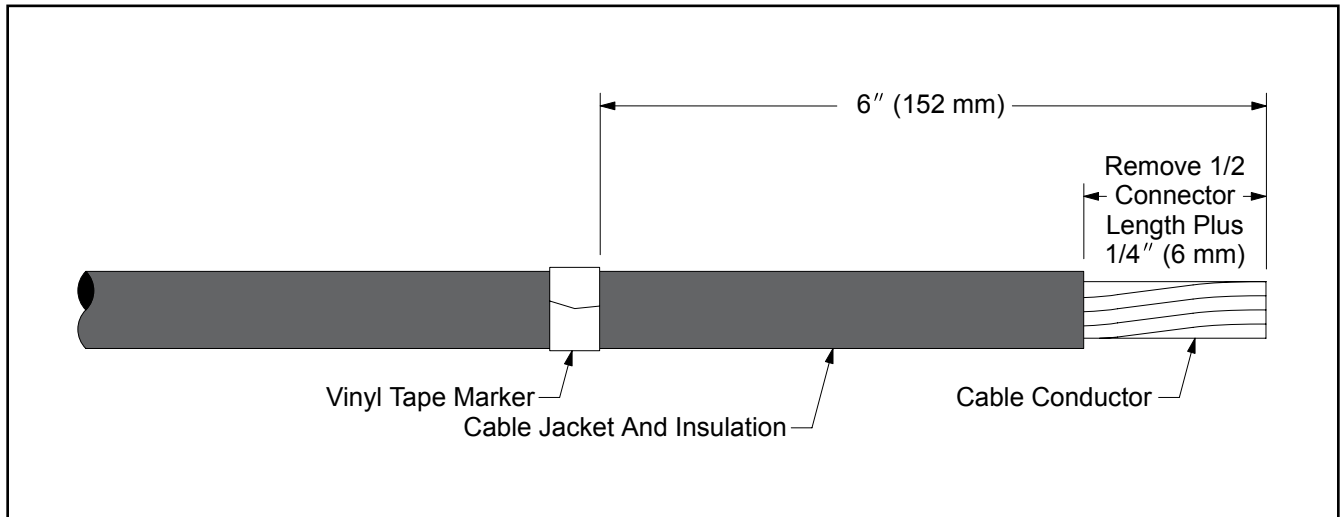

Figure 1
- a. Wrap a marker tape band around cable jacket at a distance of 6" (152 mm) from cable end (*Figure 1*).
- b. Remove insulation from cable end at a distance of 1/2 the connector length plus 1/4" (6 mm) (*Figure 1*).